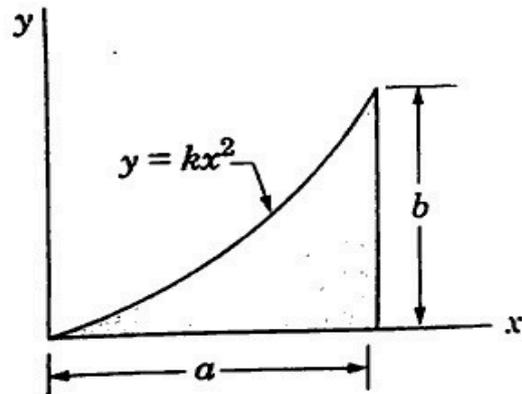

Fig.2.
- (b) Determine the centroid of the parabolic spandrel about X-axis as shown in Fig.2. The equation of the parabola is given by $y = kx^2$. (5)